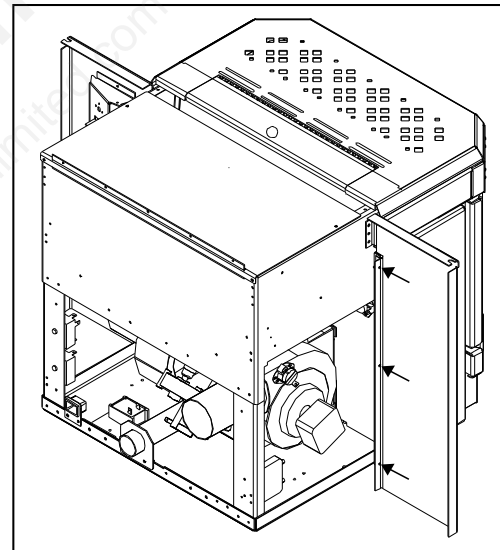

Figure 35: Panel placed on unit.
3. Using three (3) T-20 screws on each side attach the hinges on the side surround panels to the unit's side panels (refer to Figure 35).